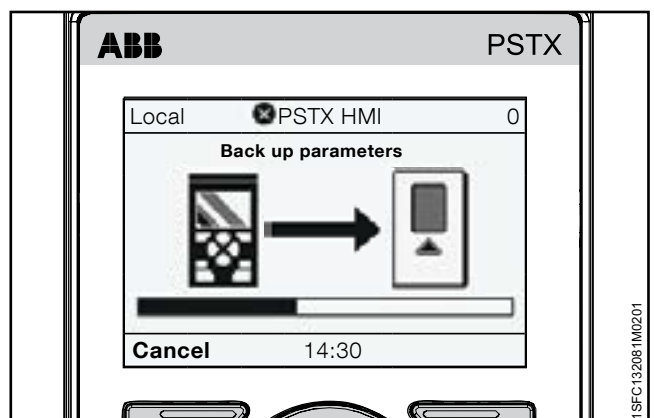

Figure 6.32
4. Push  "Select" for the upload of the parameters. This shows as in **Figure 6.32**.